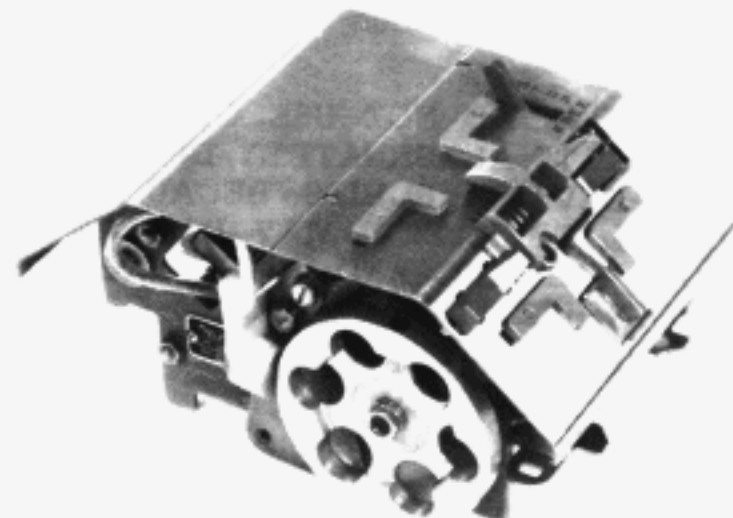

Figure 1 - High Speed Tape Reader Unit
1.01 This section provides description and principles of operation information for the high speed tape reader unit, (Figure 1). It
1.02 The high speed tape reader unit (Figure 1) is an electromechanical device which senses intelligence recorded in fully perforated or chadless tape. Its output is electrical (from 5 to 8 level, depending on the unit). The reader senses tape at speeds up to 1071.42 words per minute.
1.03 References to left or right, up or down, top or bottom, etc refer to the reader viewed with the flywheel facing the front (Figure 1).